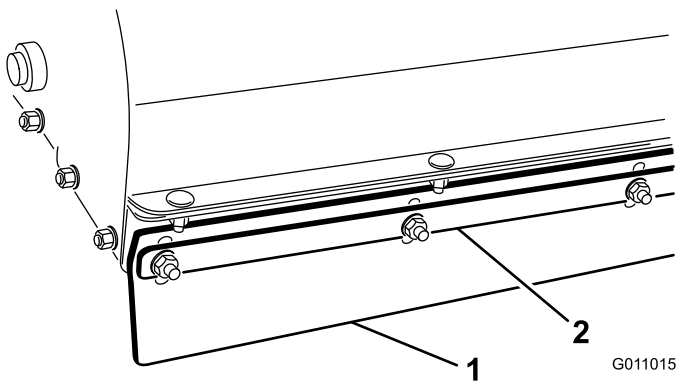

Figure 23
1. Loosen the nuts securing the metal strap and the front flap to the brush housing (Figure 23).